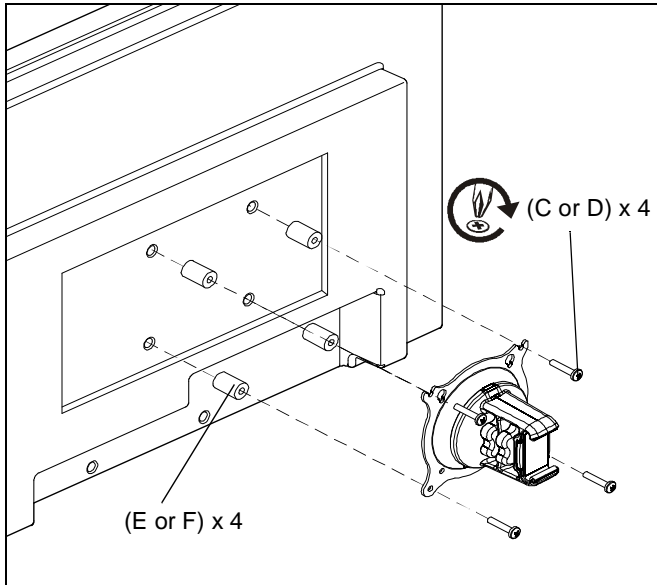

Figure 4
1. Secure display to Centris head using four 3/8" (E) or 3/4" (F) nylon spacers, and four M4 x 20mm (C) or four M4 x 30mm (D) Phillips pan head screws into four mounting holes in display back. (See Figure 4)